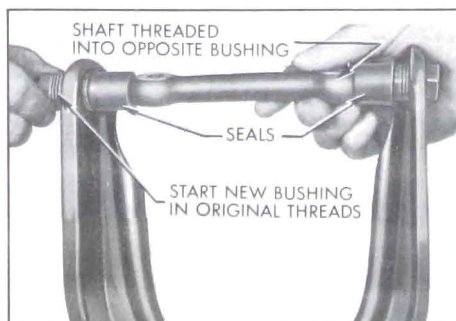

Figure 7-19—Upper Control Arm Bushing Replacement
2. Start second bushing into the upper control arm with shaft threaded into the opposite bushing. See Figure 7-19.
2. **Rear Springs.** On a car having service miles, the rear spring trim dimensions should be as shown in Figure 7-19 chart.